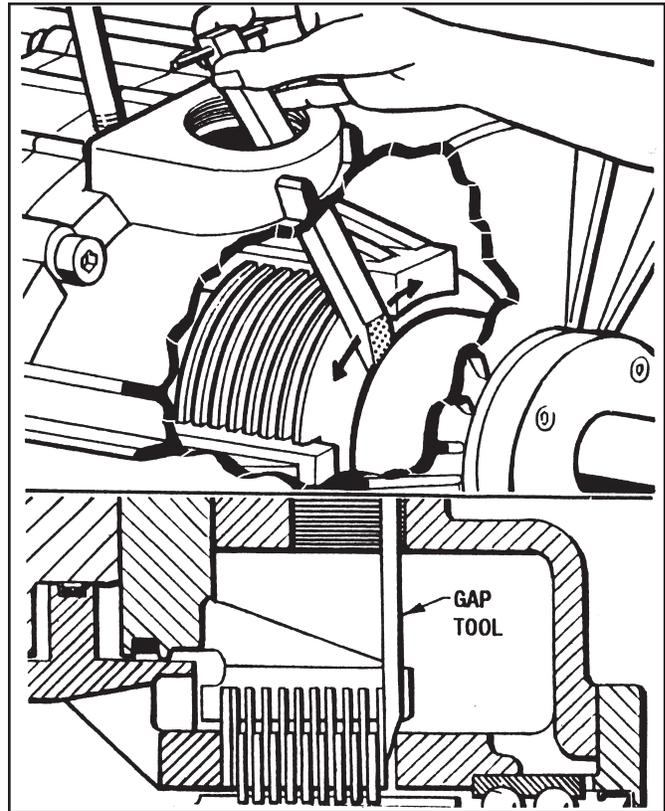

Figure 9.11 - Inserting Gap Tool
- Firmly insert the Gap Tool through the inspection port above the Brake Stack so that any slack is removed from the Brake Stack. **NOTE:** The straight side of the Gap Tool is towards the Brake Stack. (See Figure 9.11)